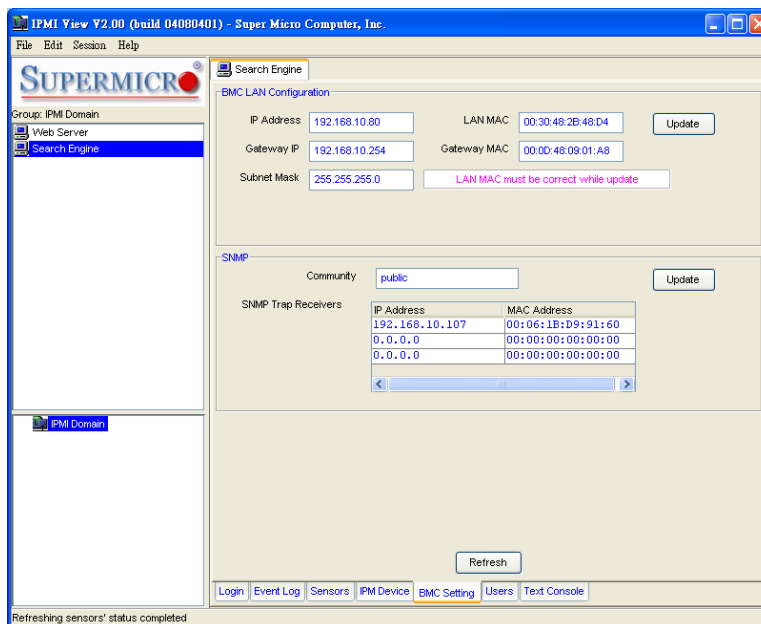

Figure 9: BMC Setting
- d) Click on the BMC Setting tab to bring up the display shown below. (see the Figure 9) As you can see, you have to fill in the IP Address, LAN MAC, and Gateway IP and MAC information found in step VI-1-c. Be careful to enter the correct value, especially for the LAN MAC. If you enter a wrong LAN MAC, you cannot connect to that system any more. Click on the Update button to the right of the LAN MAC field to save the configuration. Once you have done this configuration, you may connect to this managed system even when it is in a power-off (standby) state.